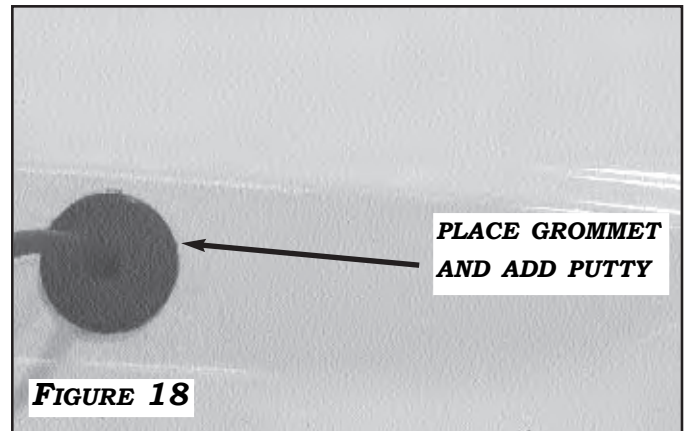

FIGURE 18
3. CUT A SLIT FROM THE CENTER TO THE EDGE OF THE SUPPLIED 1.25" RUBBER GROMMET. SLIDE THE GROMMET ONTO THE CAMERA HARNESS BETWEEN THE CAMERA ASSEMBLY AND IN-LINE PCB. MOUNT THE GROMMET TO THE HOLE AS SHOWN IN **FIGURE 18**. ADD THE SUPPLIED SEALING PUTTY TO THE HOLE IN THE GROMMET AROUND THE HARNESS. USING THE SUPPLIED 1x2" PIECE OF DOUBLE-SIDED TAPE, MOUNT THE PCB TO THE INSIDE OF THE TRUNK LID AS SHOWN IN **FIGURE 19**. BE SURE TO CLEAN THE MOUNTING SPOT WITH AN ALCOHOL PAD FIRST.